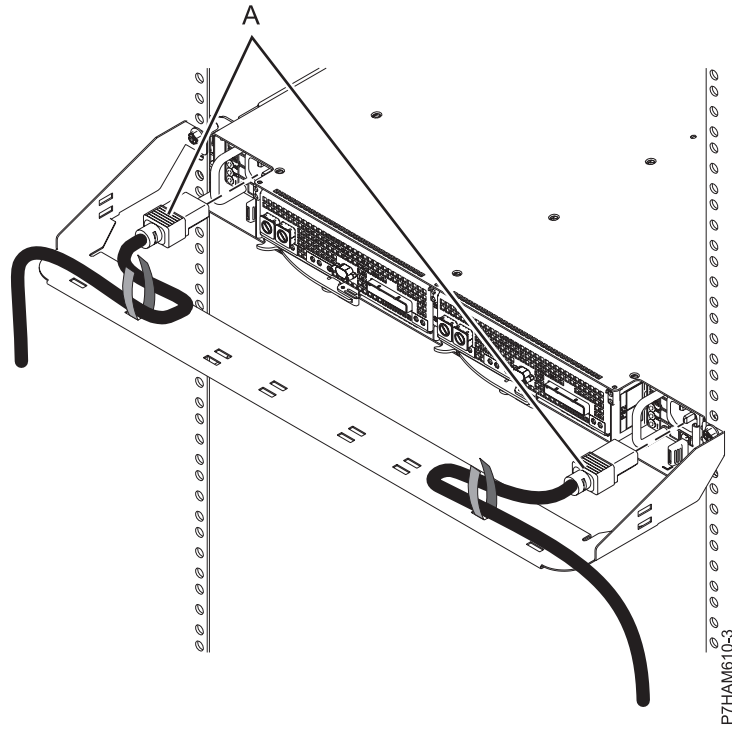

Figure 18. Installing the power cords
- i. At the rear of the rack, install the power cables (A), as shown in Figure 18 on page 15.